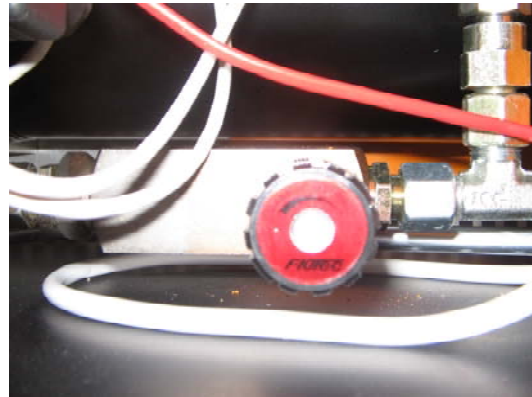

Fig. 6.10: The instrument panel
4. Switch on the instrument panel and make sure that the middle button is set to **"MAN"** as shown in Fig. 6.10.